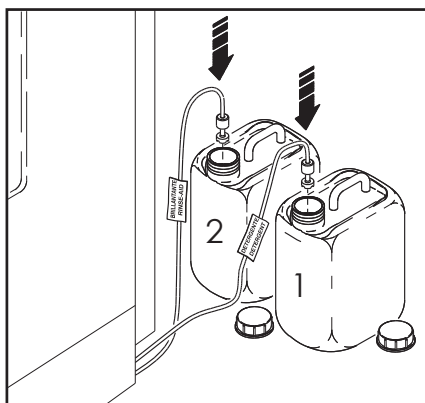

Fig. 22
- *In case the dishwasher is supplied with automatic detergent (1)/rinse additive (2) dosing device, check the detergent and rinse additive level in the in the external tanks and replace or fill up if necessary (fig. 22)*